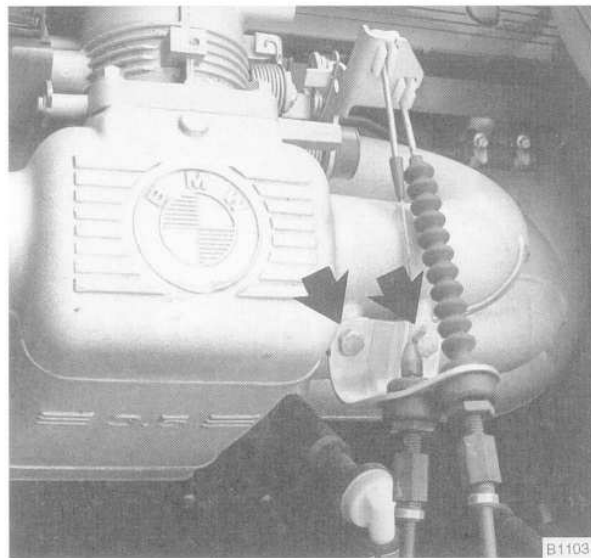

Fig. 25. Throttle, accelerator, and cruise control cable bracket mounting bolts (arrows).
- Unhook the accelerator and cruise control cables from the throttle levers. Remove the cable bracket from the intake manifold. See Fig. 25.